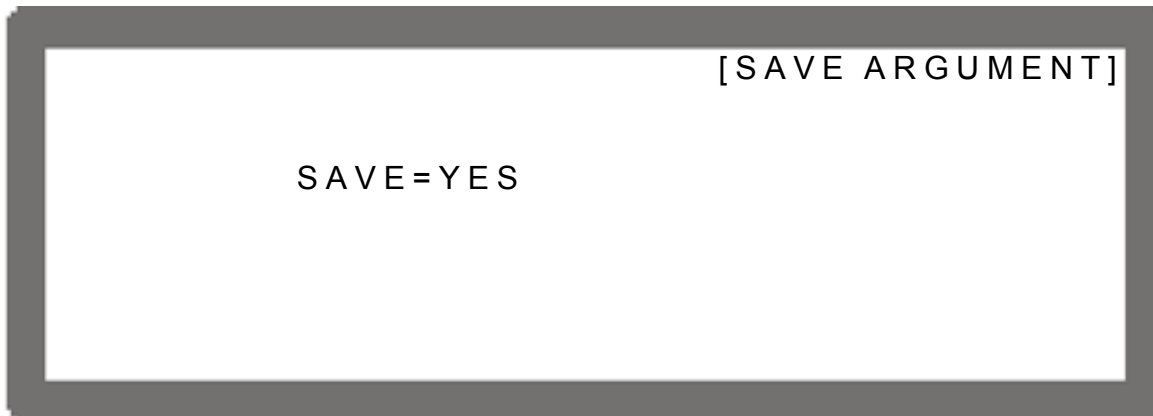

Figure 3-110
12. The current calibration is done once the above actions are completed. Remove the load of Electronic LOAD and press “” and “” to save the calibrated data as Figure 3-110 shows, or press “” to return to MAIN PAGE.